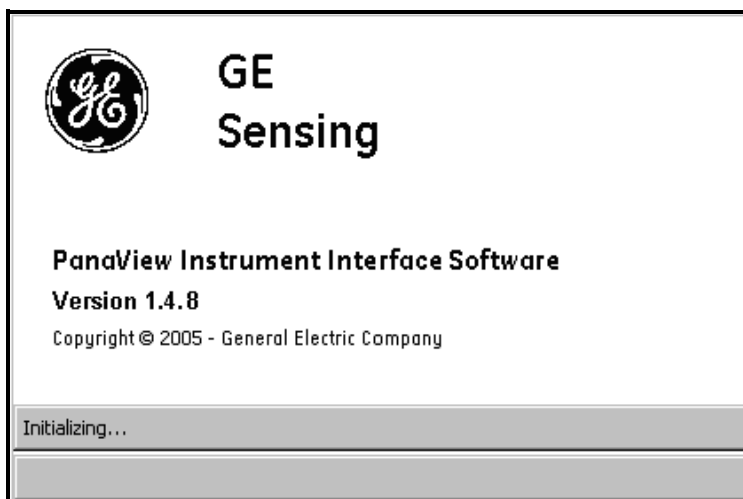

Figure 13: Initializing Screen
1. Notice the screen shown in Figure 13 below. The Version number of your PanaView software, which may not be the same as the example in Figure 3-1, is shown in this screen.